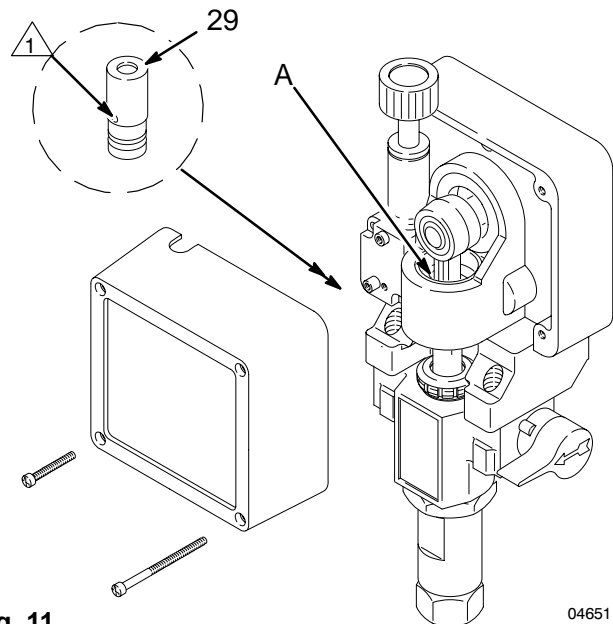

Fig. 11
3. **Periodically clean paint residue from the pressure transducer (29) vent hole area.** See Fig. 11. Replace the transducer when leakage is excessive. See page 31.
4. **Lubricate the bearing housing** after every 100 hours of operation. Remove the front cover. Fill the bearing housing cavity (A) with SAE 10 non-detergent oil. See Fig. 11.